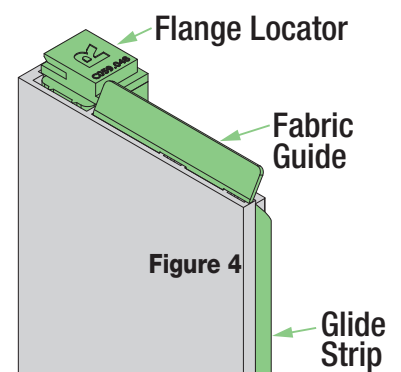

Figure 4
1. While unit is still on floor, install both side channels to both headboxes. Be sure both channels, fabric guides, and endcap locators are properly seated (Fig. 4).